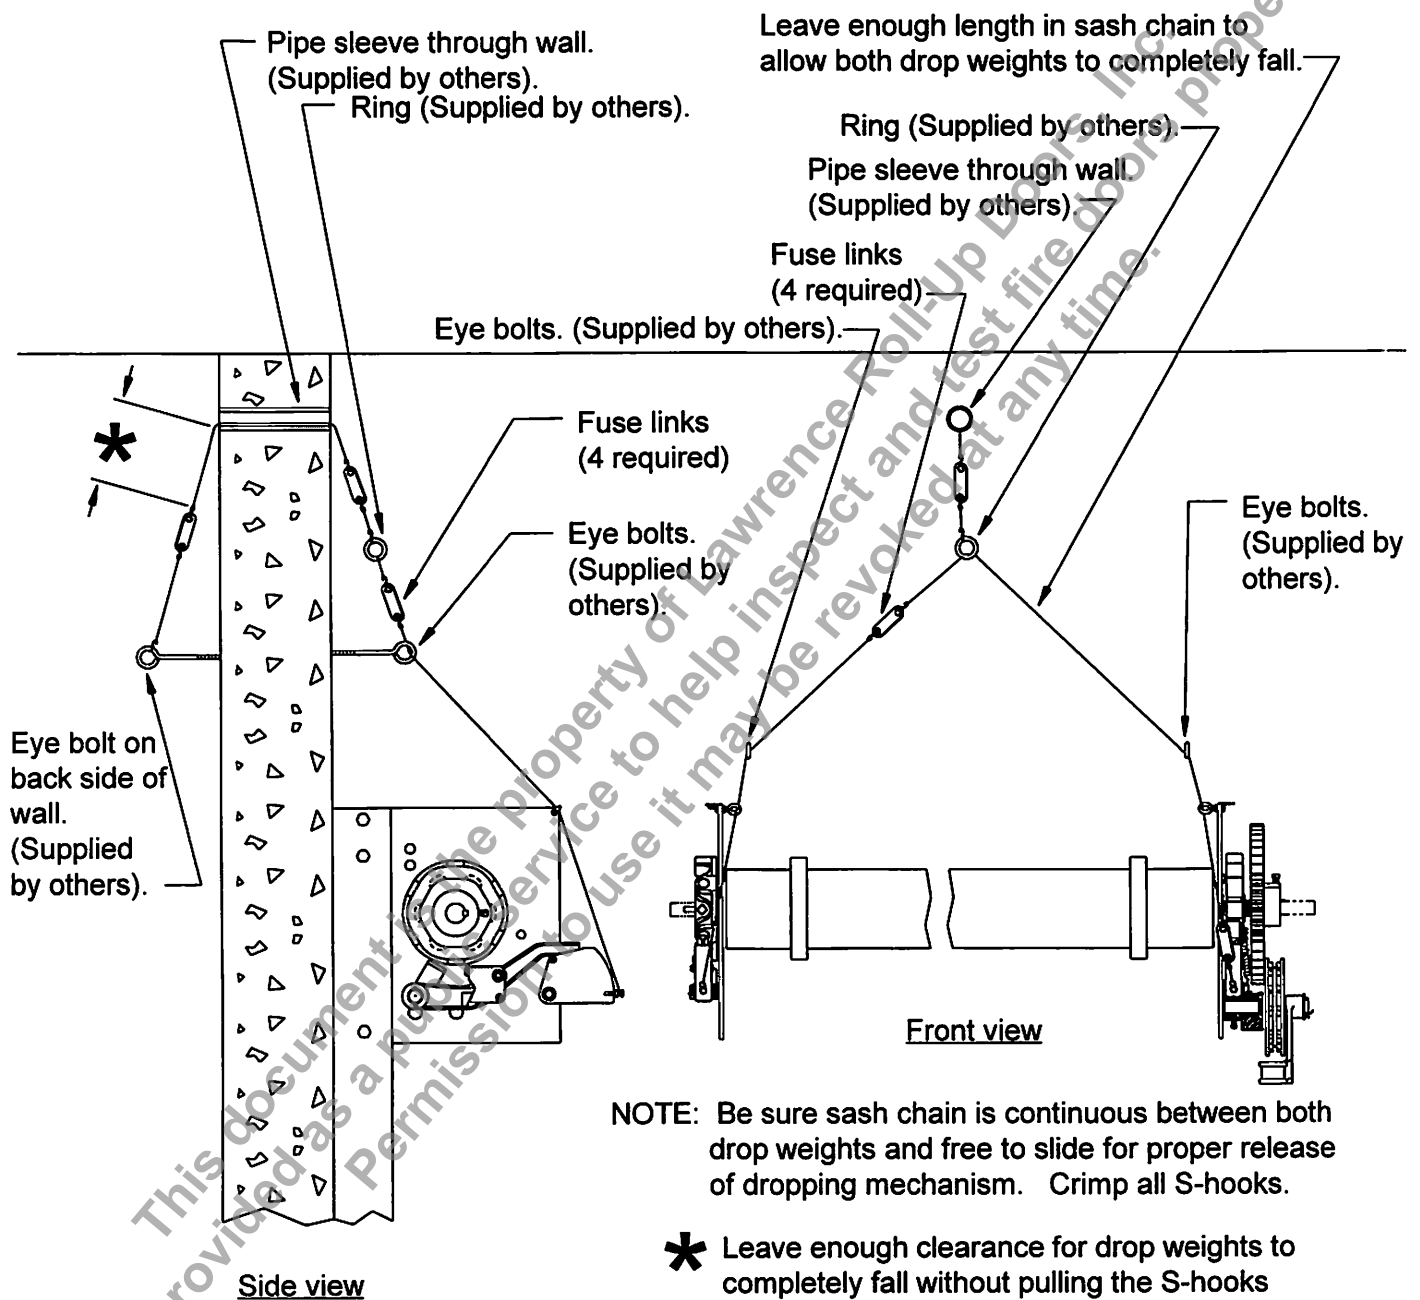

FIGURE 7C
Step 7. Install chain and fuse links to the drop weights as shown in figures 7, 7A and 7B. Chain must go from one drop weight up to the ceiling and across the ceiling and down to the drop weight on the opposite side of the door. If through wall fuse links are required, see Figure 7C also.